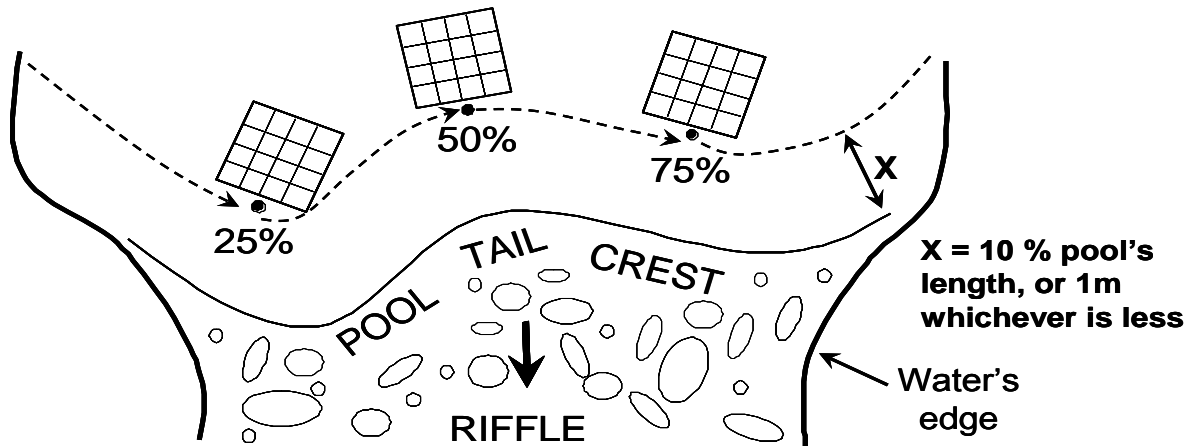

Figure 15: Location and orientation of pool tail fines grids relative to the pool tail crest
- Place the bottom edge of the grid upstream from the pool tail crest a distance equal to 10% of the pool's length or one meter, whichever is less (Figure 15).